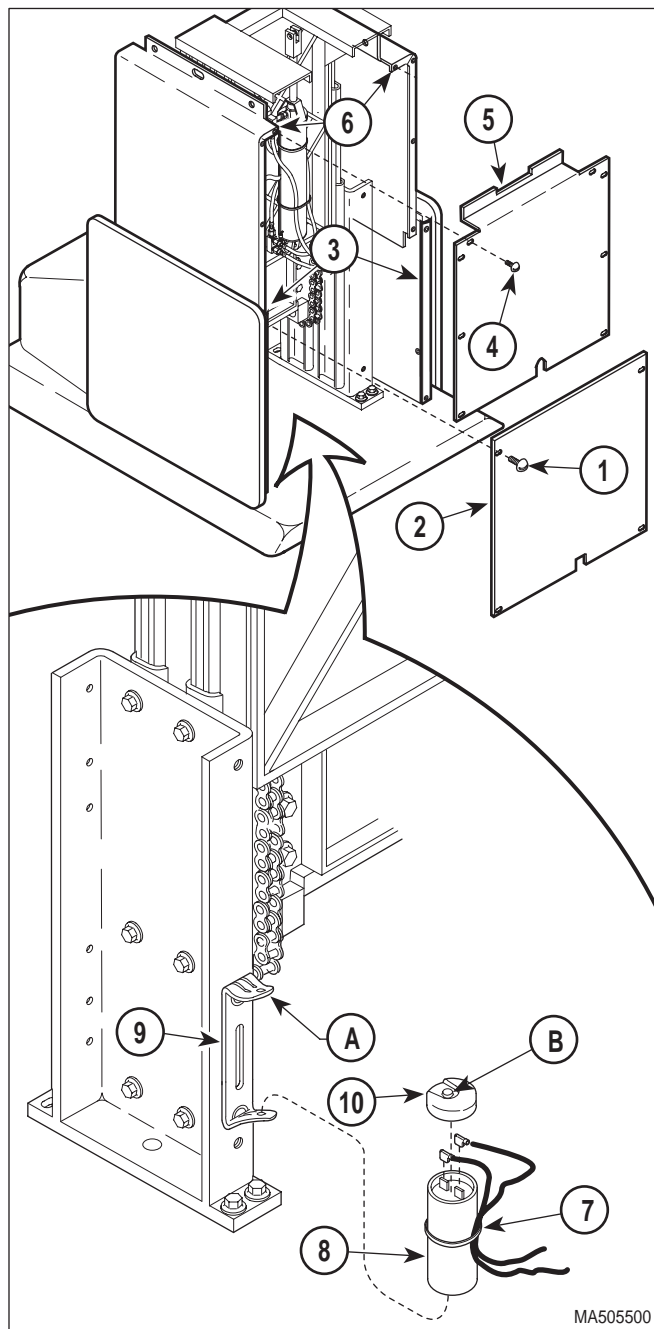

Figure 4-16. Capacitors Removal / Installation
- (1) Unplug table power cord from outlet.
- (2) Remove four screws (1, Figure 4-16) and front outer shroud (2) from left and right hand outer shrouds (3).
- (3) Remove eight screws (4) and front inner shroud (5) from left and right hand inner shrouds (6).
- (4) Cut the cable tie (7) securing the electrical leads to the capacitor (8).
- (1) Connect capacitor electrical leads to terminals of capacitor (8, Figure 4-16).
- (2) Install capacitor cap (10) on capacitor (8).
- (3) Position bottom of capacitor (8) on capacitor mounting bracket (9) and then push the top of the capacitor in. Using a screwdriver, force tab (A) of capacitor mounting bracket (9) down over catch (B).
- (4) Install cable tie to secure wire to capacitor (7).
- (5) Install front inner shroud (5) on left and right hand inner shrouds (6) and secure with eight screws (4).